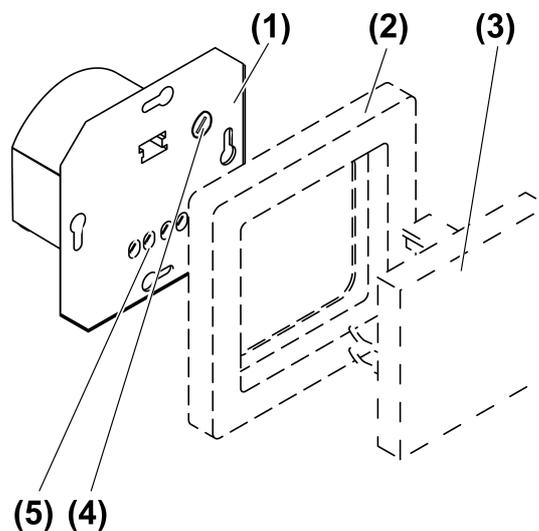

Figure 1: Device components
- Adjust the setter (4) (Figure 1) by approx. 1/4 of a rotation.